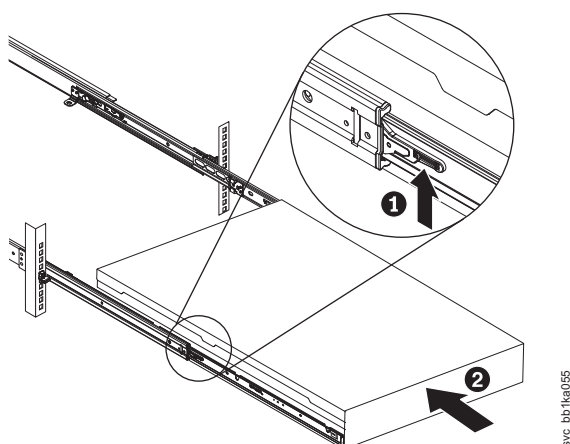

Figure 323. Raising the SAN Volume Controller 2145-DH8 locking levers of the slide rails of the rack
17. Lift the locking levers (**1** in Figure 323) on the slide rails and push the server **2** all the way into the rack until it clicks into place.